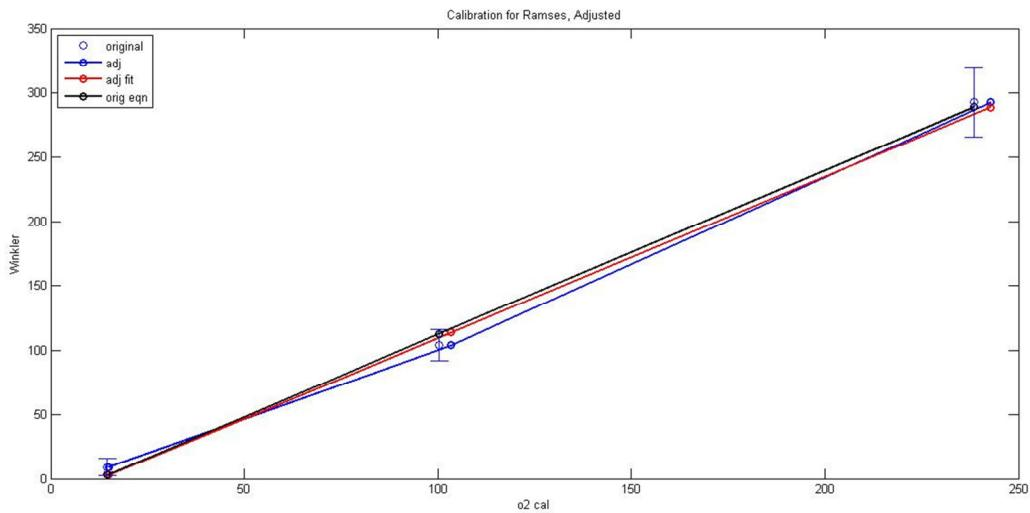

Figure 5a: Adjustments to calibration curve for Ramses
3. Get a linear fit to the revised calibration data points. This revised linear fit (slope and intercept) should then be applied to the data, resulting in *calibrated* TSP-corrected [O₂]. The revised calibration curves are shown in Figures 5a and 5b.
In Figures 5a and 5b, the “original” calibration points are plotted in blue circles (no line) with the Winkler standard deviations. The original fit is plotted as “orig eqn” in black. The calibration points are then adjusted as documented above to generate the blue circles (with line). The new, adjusted fit is in red.